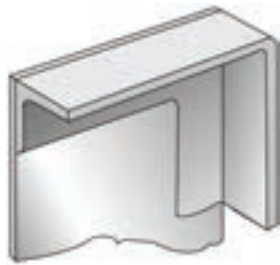

Figure 6: Avoid uneven thickness at joints
- Unequal thickness at joints (*Figure 6*)